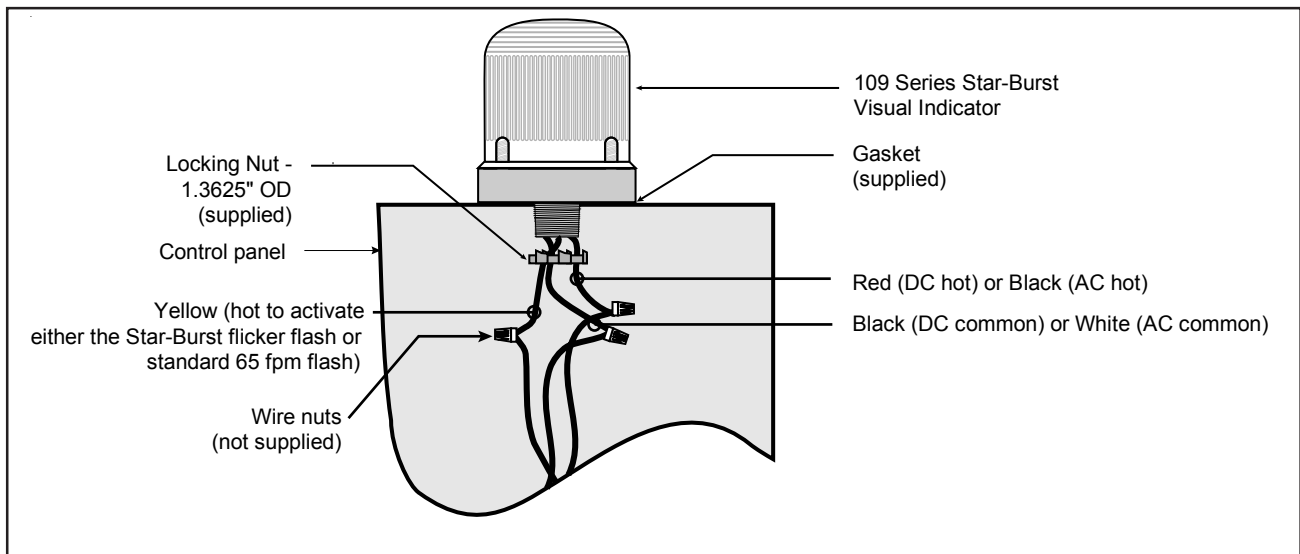

Figure 2. Panel Mounting
#### Panel Mounting (Figure 2)
- Panel Mounted Modules:** Disconnect wiring and remove locking nut securing the base to the panel (Figure 2).